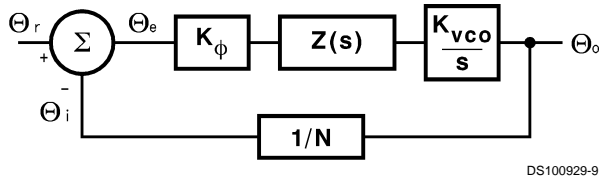
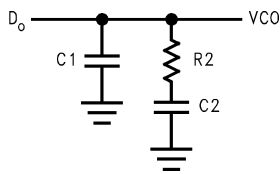

FIGURE 2. PLL Linear Model
FIGURE 3. Passive Loop Filter
A linear control system model of the phase feedback for a PLL in the locked state is shown in Figure 2. The open loop gain is the product of the phase comparator gain (K_{ϕ}), the VCO gain (K_{VCO}/s), and the loop filter gain $Z(s)$ divided by the gain of the feedback counter modulus (N). The passive loop filter configuration used is displayed in Figure 3, while the complex impedance of the filter is given in Equation (2).